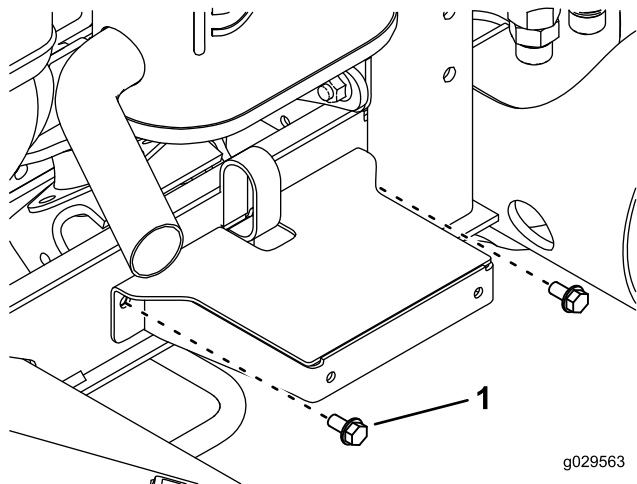

Figure 6
9. Using the newly drilled holes, secure the fender mount to the frame channel with 2 thread-forming screws (5/16 x 5/8 inch) as shown in Figure 6.